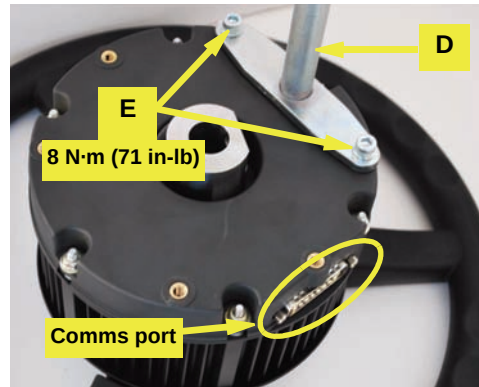
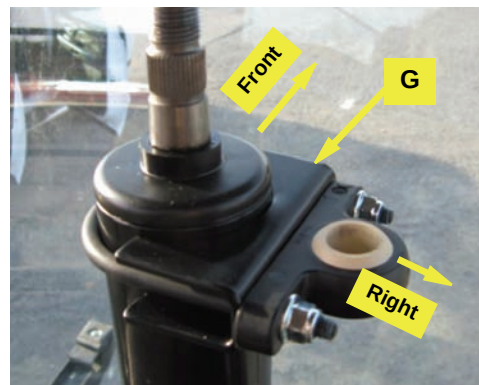

Figure 2: Anti-rotational T bracket installed. Comms port will be on the front of steering column if pillow block bushing to the right.
Figure 4: Pillow block assembly installed
The final position of the anti-rotational (a/r) T bracket will be determined by where you install the a/r pillow block/U-bolt assembly (G) at step 4. This will also fix the position of the steering wheel assembly's communications port. So, before you install the a/r T bracket (and the pillow block), decide where you want the communications port to be. Consider the cabling and visibility of the work area. In Figure 2, the comms port will be at the front of the steering column (toward the windscreen) if you install the pillow block assembly with its bushing on the right side of the steering column (see Figure 4).
Using hardware E, attach the anti-rotational T bracket D to the base of the steering wheel assembly A. Screw E into the appropriate threaded inserts (see note preceding). Torque the bolts to **8 N·m (71 in-lb)** (Figure 2).
Install the anti-rotational pillow block/U-bolt assembly G near the top of the steering column. Consider where you want the comms port to be when the steering wheel assembly is installed. Leave the nylock nuts loose enough to move the assembly (Figure 4).
In this installation, the pillow block's bushing is on the right side of the steering column. With the T bracket installed as in Figure 2, the comms port will be at the front of the steering column, toward the windscreen.